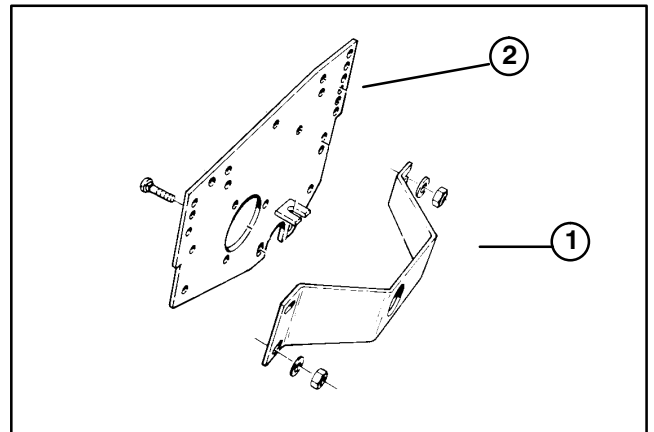

Figure 12
7. On **rear, fixed** cutting unit, remove (2) carriage bolts, washers and locknuts securing side guard to left side plate of cutting unit (Fig. 12).